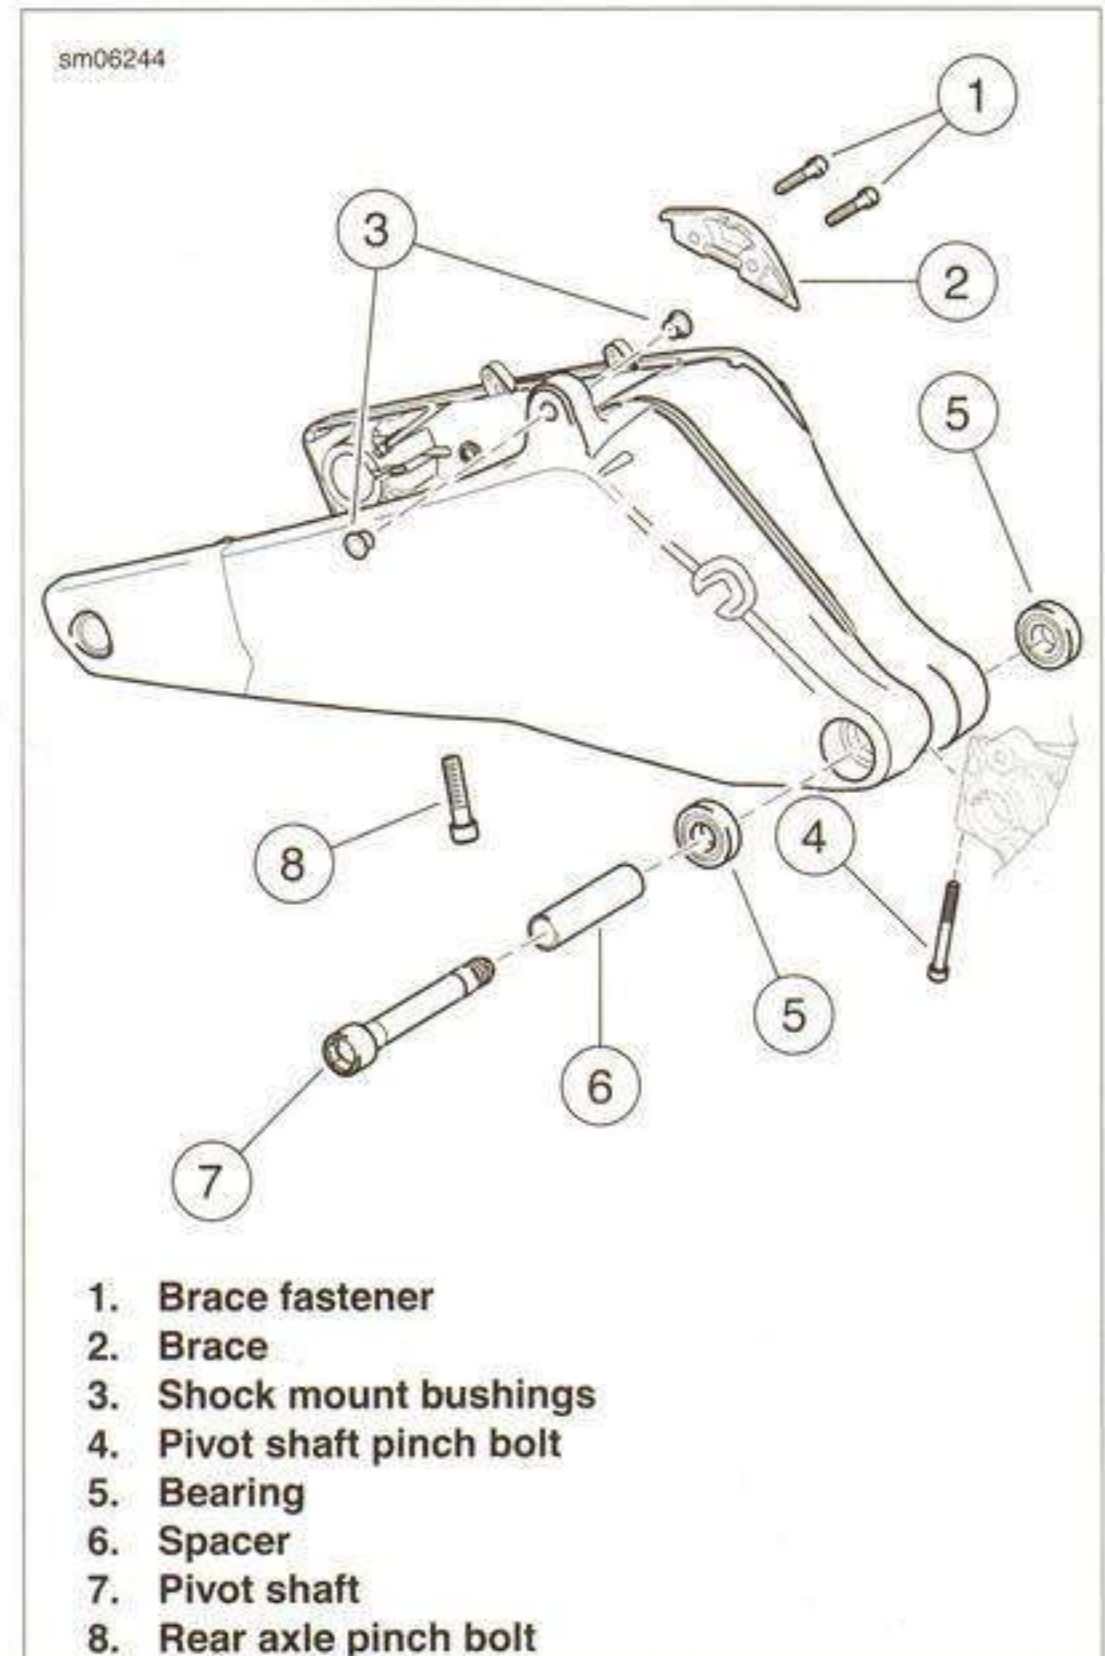

Figure 2-112. Swingarm Assembly
See Figure 2-112. Remove the swingarm bearings (5) only if replacement is required. Mark all components so they may be correctly installed. Both bearings must be replaced as a unit. Do not intermix new and used components.
1. Remove swingarm bearings using SLIDE HAMMER (Part No. SNAP-ON CJ1275) or equivalent and a 3/4 inch bearing remover and spacer (6).
2. Remove shock mount bushings (3).
1. See Figure 2-112. Apply LOCTITE ANTI-SEIZE to threads, shaft and large diameter on socket end of the pivot shaft (7).
2. Apply LOCTITE ANTI-SEIZE to mating inner races of swingarm bearings (5).
5. Apply LOCTITE 271 (red) to the threads of the pivot shaft pinch bolt (4). Install and tighten fastener to 27.1-29.8 Nm (20-22 ft-lbs).